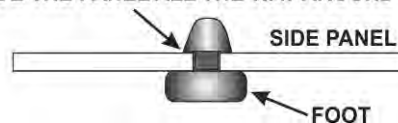

Figure 13. Side Panel Foot Installation.
- Install the four rubber side feet in the large holes in the left side panel. Be sure the large flat side of each foot is on the outside (fully painted side) of the panel. The feet should be fully seated in the holes as shown in Figure 13. Two suggested procedures for doing this are as follows: